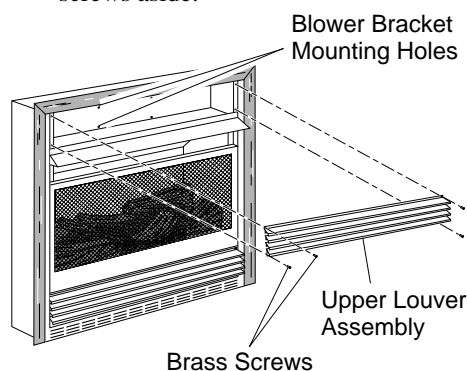
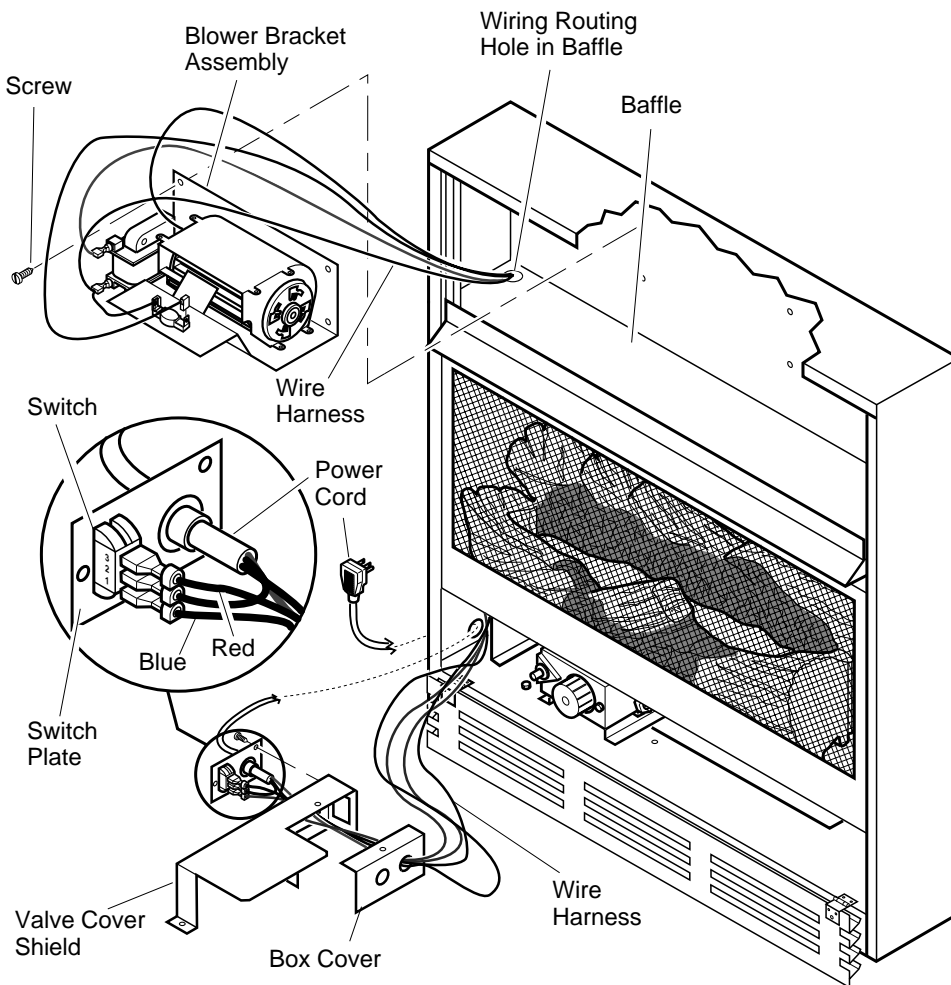

Figure 16 - Removing Upper Louver Assembly
Figure 18 - Installing Blower Bracket Assembly
2. Remove 4 screws from louver assembly (see Figure 16). Save these screws.
3. Note the wire locations on back of AUTO/OFF/ON switch. The terminals on back of switch are numbered 1, 2, and 3. Carefully remove red wire from terminal 1 and blue wire from terminal 3. Black wire can remain on middle terminal 2 (see Figure 18, page 12).
5. In top of the heater cabinet, locate the four mounting holes on the outer casing. Align these four holes with those on the blower bracket assembly. Attach blower bracket assembly to the outer casing with 4 #10 screws provided (see Figure 18).
6. Route the wire harness through the hole in left side of baffle. Pull wire harness through lower opening above where the valve shield was removed. (see Figure 18).
7. Insert the 4 wire harness into one of the round holes in the rear of the valve cover shield and through the rectangular hole in the front of shield (see Figure 18).
9. Install the switch plate on the valve cover shield with 2 #10 screws provided (see Figure 18). Reinstall the valve cover shield. Route power cord out of the cabinet by inserting it through the bushing on the outer casing (see Figure 18). Plug fan kit into 120-Volt grounded power supply and test operation. **Note:** When switch is in the AUTO position, the fan will start after the heater has run for a few moments. The fan will continue to run for several moments after the heater has been turned off. When switch is in the ON position, the fan will run until turned to OFF. Reinstall upper louver assembly and hood if previously removed, (see Figure 16, page 11). Close lower louver door.
8. Reinstall upper louver assembly and hood if previously removed, (see Figure 16, page 11). Close lower louver door.